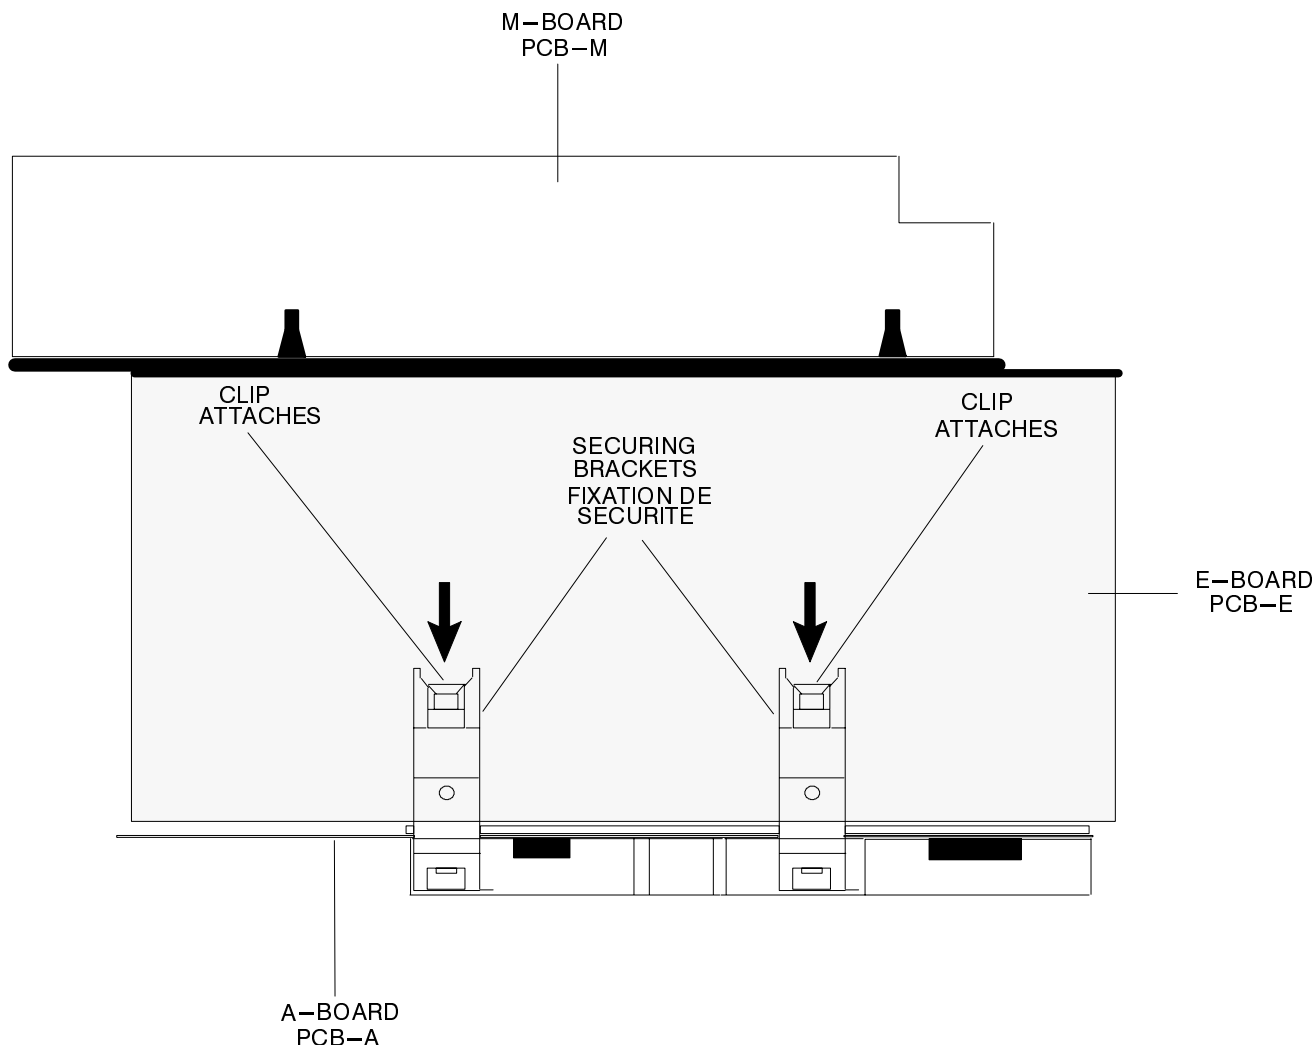

Fig.8
2. Release the A board securing brackets by pushing the clips in the direction shown in Fig.8, and remove the A - board by gently lifting vertically.
2. Retirer les fixations de sécurité des PCB-A en poussant les attaches dans la direction indiquée Fig.8, retirer la PCB-A en la tirant doucement verticalement.
1. Remove the A-board from the main chassis (E-board) as shown in Fig.8.
1. Retirer la PCB-A du châssis principal ([PCB-E) tel qu'indiqué Fig.8.